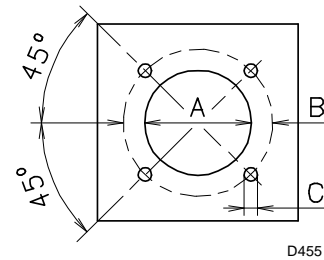

Fig. 11
Drill the combustion chamber locking plate as shown in (Fig. 11). The position of the threaded holes can be marked using the thermal screen supplied with the burner.
- Place entire burner on the boiler hole arranged previously, see (Fig. 11), and fasten with the screws given as standard equipment.